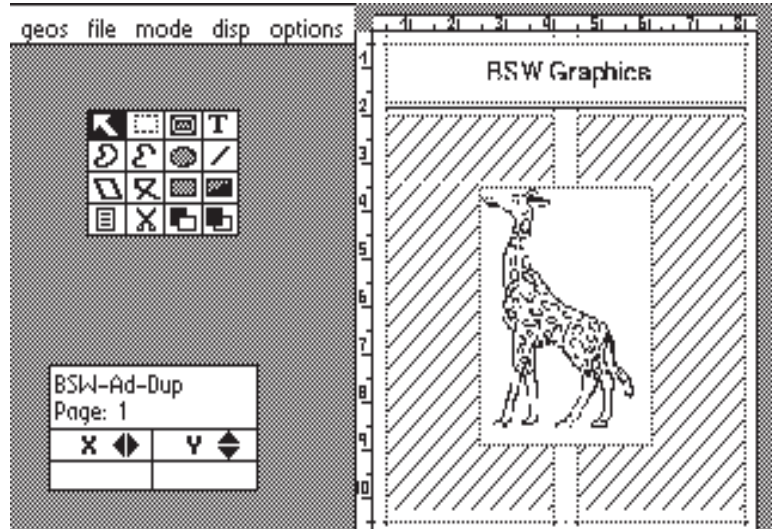
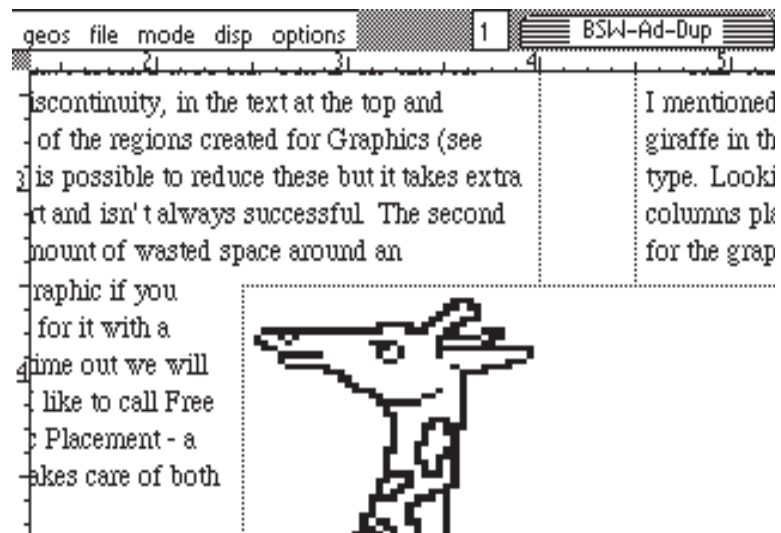
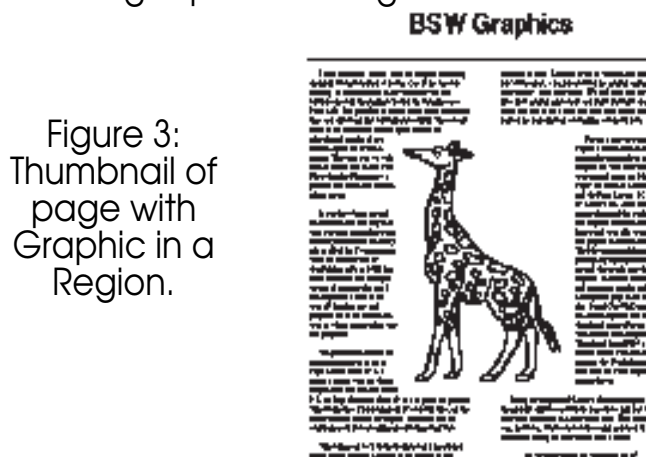

Figure 1: Simulated BSW Ad - Place Graphic into its own Region on the Page.
Figure 2: Simulated BSW Ad - Graphic in Region; Text using separated Regions & Default Gutters.
Figure 3: Thumbnail of page with Graphic in a Region.
Figure 1 (preview mode) & Figure 2 (zoom mode) show a reasonable facsimile of the original ad. The basic layout was created using the Master Page '2C Divider' Library file and the Page Layout '2C Title U' Library file. After some manipulation of the guidelines and regions I had the desired layout and was able to import my graphic (a Giraffe from The Newsroom publishing package by Springboard). I poured this article into the text regions, added the headline and separator graphic and had a completed page in no time flat. I used Screen2Paint for the screen captures and ScrapCan to create the Photo Scraps. Thumbnail, from RUN's GEOS Power Pak, was used to create Figure 3 and Figure 6 after printing the gP page to disk with the Paint Pages printer driver.
I know that this may sound like a lot of work but, once you've done it a few times, you will find it quite easy to do with very little mode swapping. You will also find that, if your graphics are odd shapes like our giraffe, you can fit a lot more text on the page (compare Figure 6 with Figure 3). In this case we added three full paragraphs to the page using the Free Flow Graphic method. Your graphics will also appear to be part of the page instead of looking like a separate island.
From the GEOS menu open Photo Manager and Copy the Fig1 image to a Photo Scrap. Close Photo Manager and then choose the Bitmap Placement Tool. Move your Pointer onto the page and Click to place the image at the intersection of our two lines.
Change back to Preview (disp menu) and then select Zoom again. Place the zoom box so it overlaps the lower left corner of the graphic we just placed (about 3.5" and 2"). Here we want to select the Line tool and draw a vertical line at the 3 3/4" mark and a horizontal line at the 4 1/2" mark. Copy the Fig2 graphic into a Photo Scrap with Photo Manager and then place it at the intersection of these two lines. Once the graphic has been placed erase the two lines and go back to Preview.
The two graphics that we have placed are screen shots of geoPublish while creating the simulated BSW ad. Our third image for this page is a thumbnail image of the ad once it was completed. The thumbnail is a lot smaller than the screenshots. Select Zoom View and place the box at about 7" down the page and as far to the right as it can go. Draw our two lines at 5 1/2" vertical and 7 3/4" horizontal. Copy Fig3 to a Photo Scrap with Photo Manager and place it on the page at the intersection of these two lines. Erase the two lines and change back to Preview.
**"Figure 1: Simulated BSW Ad - Place Graphic into its own Region on the Page."**
**"Figure 2: Simulated BSW Ad - Graphic in Region; Text using separate Regions &**
**"Figure 3: Thumbnail of Page with Graphic in a Region."**